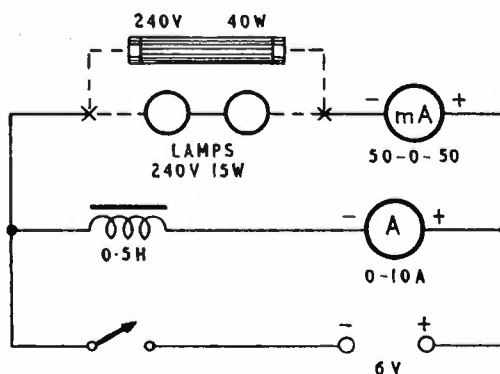

FIG. 1.
STEP 1. Connect the circuit as in Fig. 1, using either the lamps or fluorescent tube.